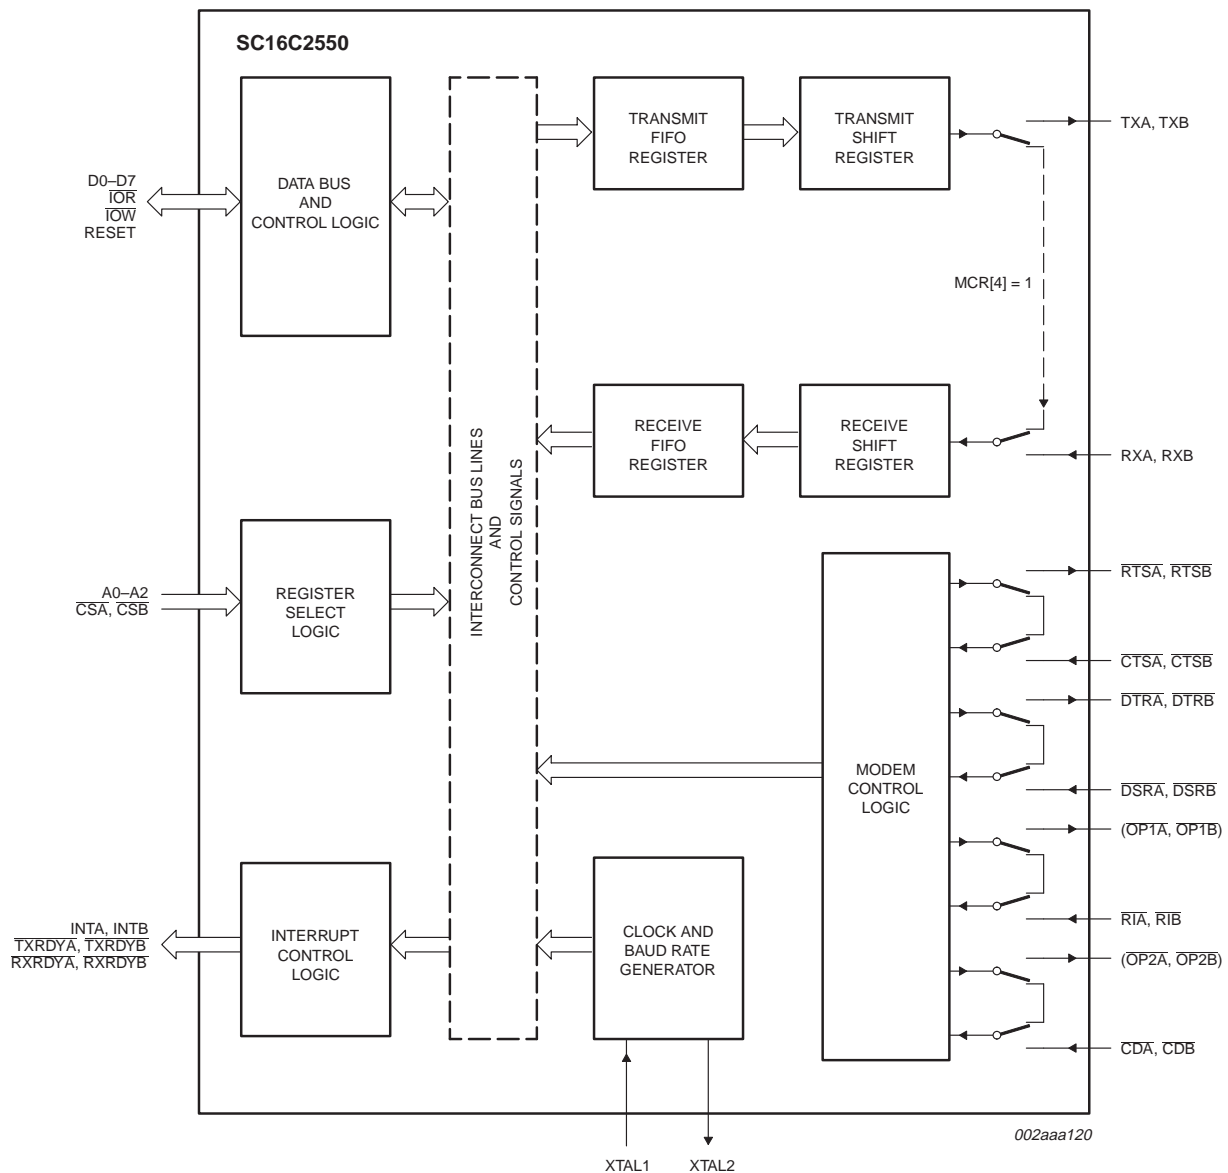

Fig 6. Internal loop-back mode diagram.
The internal loop-back capability allows on-board diagnostics. In the loop-back mode, the normal modem interface pins are disconnected and reconfigured for loop-back internally (see Figure 6). MCR[0-3] register bits are used for controlling loop-back diagnostic testing. In the loop-back mode, the transmitter output (TX) and the receiver input (RX) are disconnected from their associated interface pins, and instead are connected together internally. The CTS, DSR, CD, and RI are disconnected from their normal modem control inputs pins, and instead are connected internally to RTS, DTR, MCR[3] (OP2) and MCR[2] (OP1). Loop-back test data is entered into the transmit holding register via the user data bus interface, D0-D7. The transmit UART serializes the data and passes the serial data to the receive UART via the internal loop-back connection. The receive UART converts the serial data back into parallel